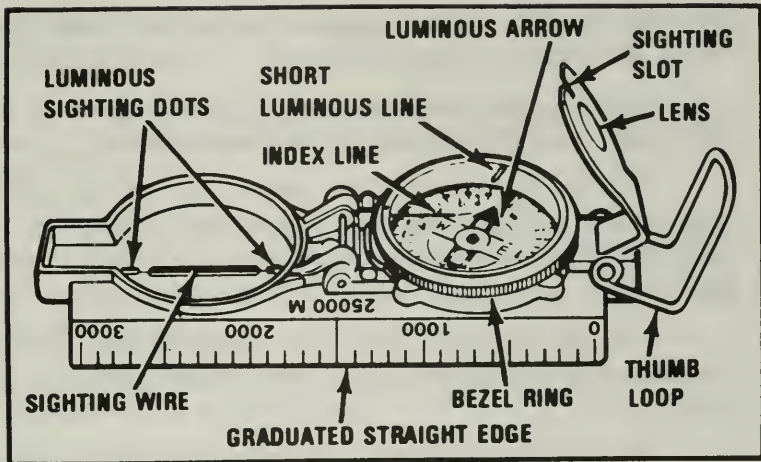

Figure 35. Lensatic compass.
1. Read your compass (Figure 35).